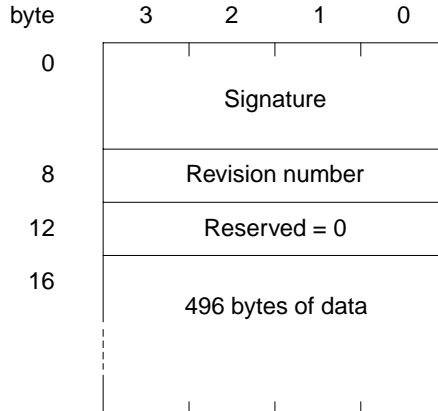

Figure 32. ISAL Reserved Area Sector Format
- The first 16 bytes of all blocks are reserved, so each block must have the format shown in Figure 32.